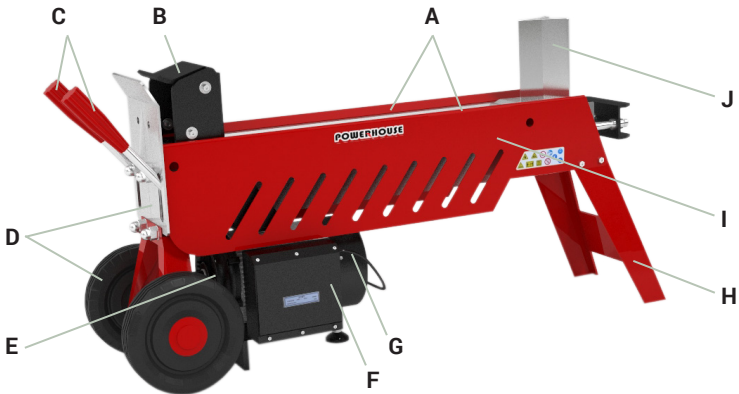

Figure 1 List of major components
Check the components based on the following list in Figure 1.
6. Place Log on the Splitter. Put a log lengthwise on the Main Body of the splitter (I in Figure 1). It should be flat on the Splitter cradled between the Log Guiding Plates (A in Figure 1). Do not split a log at an angle. Make sure that one end of the log is squarely in contact with the Wedge (J in Figure 1) and the other end with the Log Pusher (B in Figure 1).
7. Start Splitting Logs – Press down on the Electric Motor Start Switch (F in Figure 1) with one hand. The motor will start to spin. Wait a few seconds until the motor spins fast enough to create the necessary pressure in the Hydraulic pump. When there is enough pressure, depress the Operating Handle with your other free hand (C in Figure 1). This will move the Log Pusher (B in Figure 1) in the direction of the log and compress the log against the Wedge (J in Figure 1). This motion will instantly split the log. As soon as the log is split, release the Electric Motor Start Switch (F in Figure 1) with one hand and the Operating Handle (C in Figure 1) with the other hand. This will make the Log Pusher (B in Figure 1) retract to its original position.
1. Check that the Log Pusher (B in Figure 1) is fully retracted to its original position.